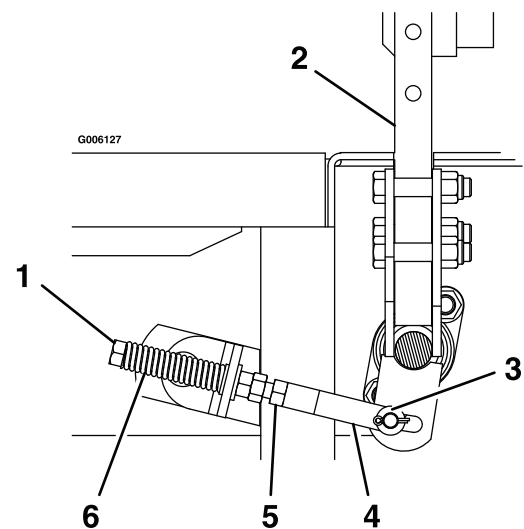

Figure 20
3. Begin with either the left or right motion control lever. Move lever to the neutral position and pull lever back until the clevis pin (on arm below pivot shaft) contacts the end of the slot (just beginning to put pressure on spring). (Figure 20).